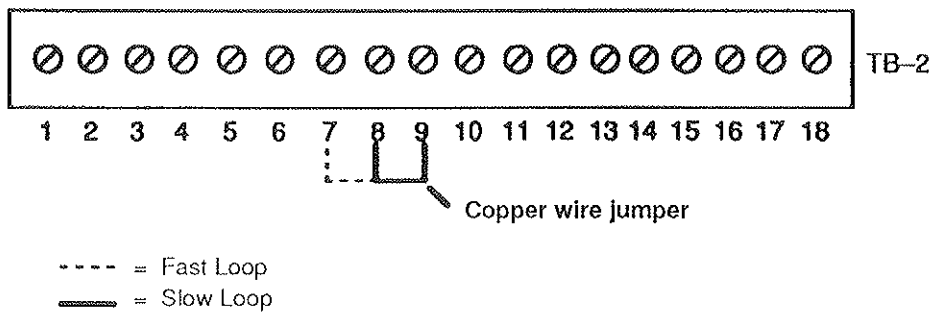

FIGURE 5
10. Terminals 8 and 9 are used to engage the "slow loop" control format for slower reacting processes such as temperature or level control. This is accomplished by moving the jumper from terminals 7 and 8 to terminals 8 and 9. (See Figure 5.)
5. If the EPC is being used for controlling slow reacting processes like temperature and level, select the control format for slow-acting control loops by moving the jumper from terminals 7 and 8 to terminal 8 (AUX#1 Input) and terminal 9 (AUX#1 Output) on the Field Wiring Terminal Block, as shown in Figure 5. For control loops other than pressure, temperature or level, install the EPC with the control format that will be most suited to the control system's reaction to control valve change.